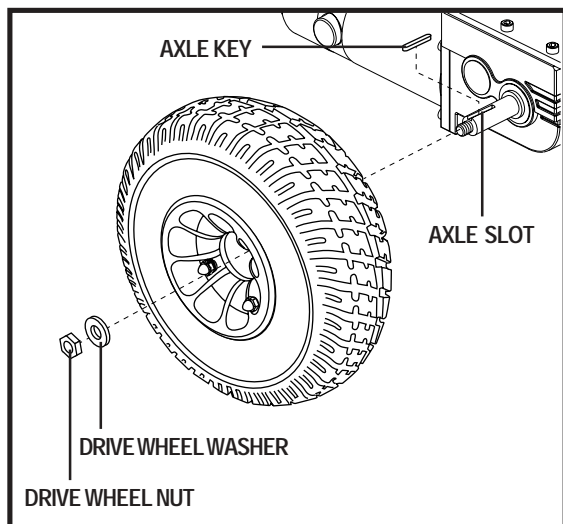

Figure 21. Jazzy 610 Drive Wheel
4. Remove the drive wheel nut and washer from the axle. See figure 21.